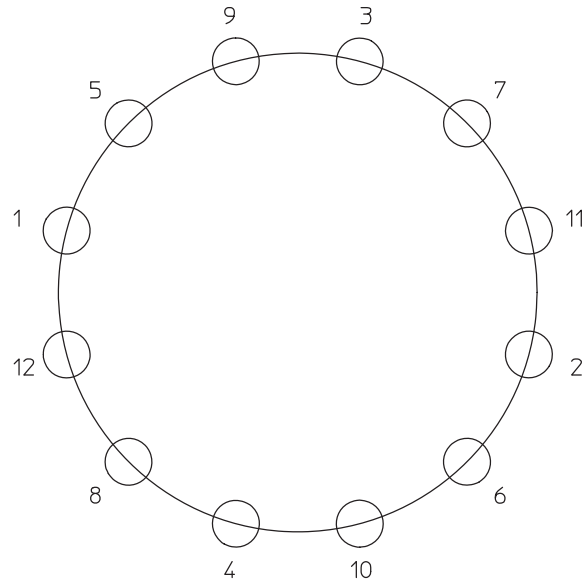

Figure 7. Bolting Sequence
1. Position the actuator box assembly (key 14) over the valve shaft, and secure it to the valve with the valve mounting cap screws.
2. Tighten the bolted joints on this valve/actuator assembly using the criss-cross pattern shown in figure 7. Tighten each bolt evenly and in the sequence shown in figure 7. Tighten the valve mounting cap screws to 163 N•m (120 lbf•ft).